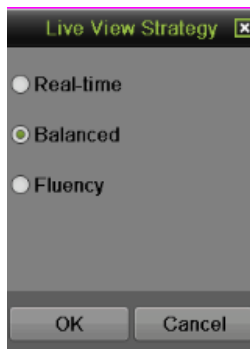

Figure 60 Live View Strategy Menu
2. Click the Live View Strategy icon. This will bring up the Live View Strategy menu, as shown in **Figure 60**.